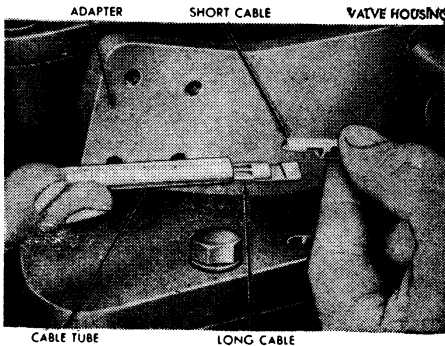

Fig. 6 Long and short shift cable connection
3. Disconnect long and short shift cables at connector joint, Fig. 6.